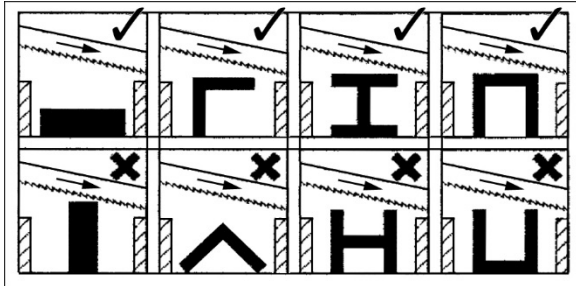

Figure 23: clamping positions
2. Position workpiece in vise and tighten vise. Workpiece should be fitted directly between jaws without adding other objects. When workpiece is profiled section, flat piece or special shape, refer to examples in Figure 23 for proper clamping positions. The top row